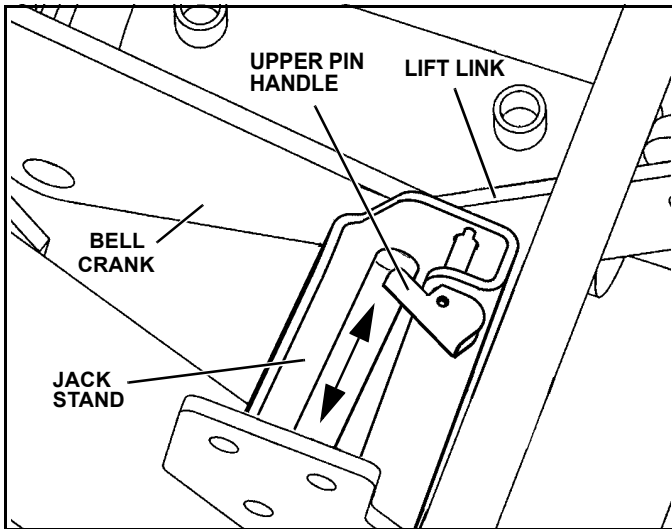

Figure 1-14
2. Disengage lower jack stand pin by pulling on handle. Lower the jack stand and engage the top pin by pushing on the handle. Make sure pin is engaged in hole by rotating jack stand back and forth. (See Figure 1-14)